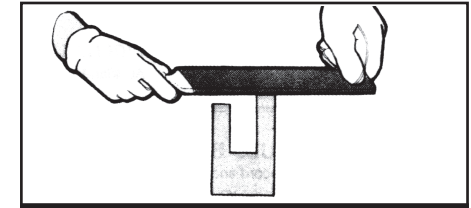

Fig. 27
3. If one rail is higher than the other one, it is necessary to make it even with a flat file and then smooth them with a file or fine grain abrasive paper (Fig. 27).